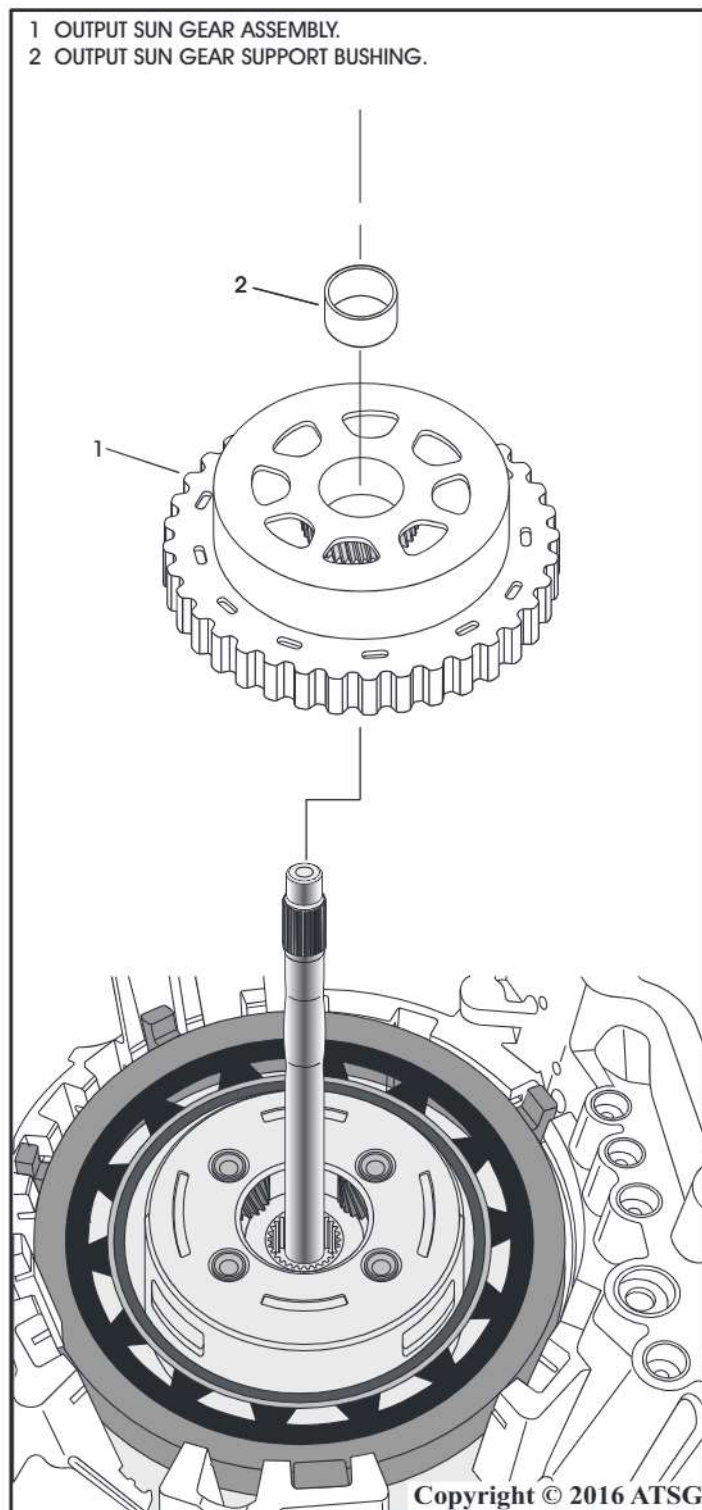

Figure 160
61. Install the output sun gear assembly. Refer to Figure 160.